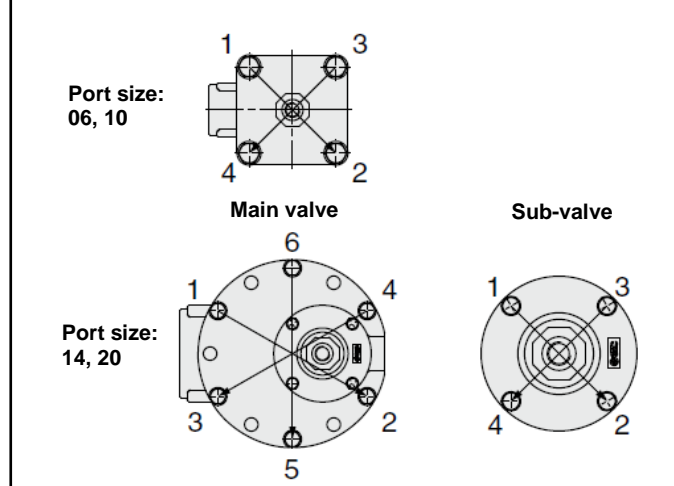

Fig.9
- Tighten the hexagon bolts (and/or cross recessed round head screws) diagonally, ensuring the ring terminal (see 3.3.2) is correctly mounted (see Figs.9 & 1), using the correct tightening torque values shown in the table below.